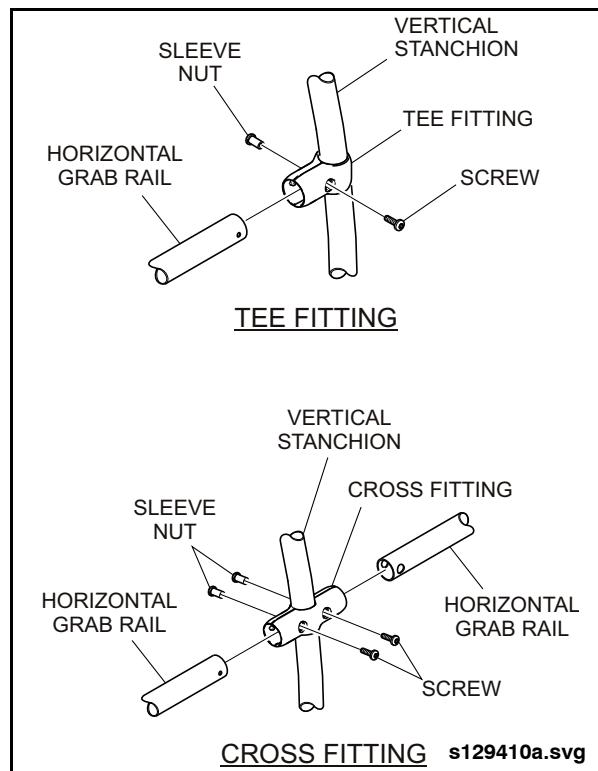

Fig. 17-15: Tee & Cross Fitting Connection
3. Loosen the attaching hardware on the tee fitting or cross fitting that attaches the vertical stanchion to the horizontal grabrail. See "Fig. 17-15: Tee & Cross Fitting Connection" on page 17.